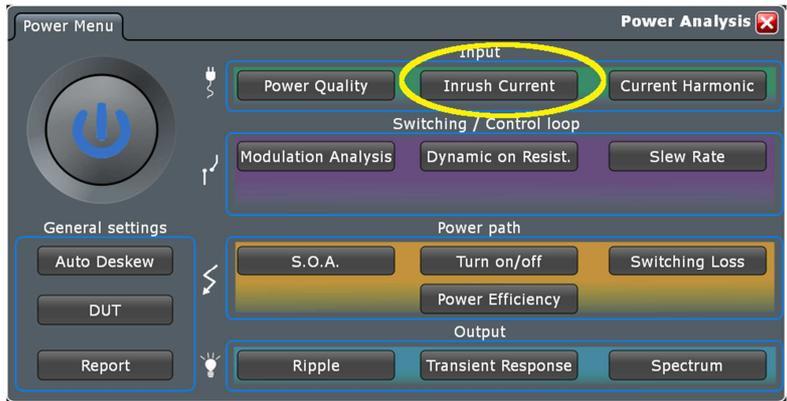

Figure 11: Main Menu for RTO-K31 Power Analysis
(2) Now select the 'Inrush Current' measurement, shown in Figure 11.